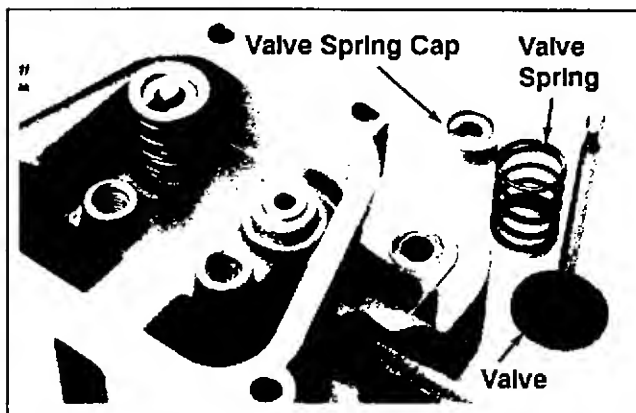

Figure 11-18. Installing Valves.
1. Lubricate with engine oil, and install the valves, valve springs, and valve spring caps. See Figure 11-18.